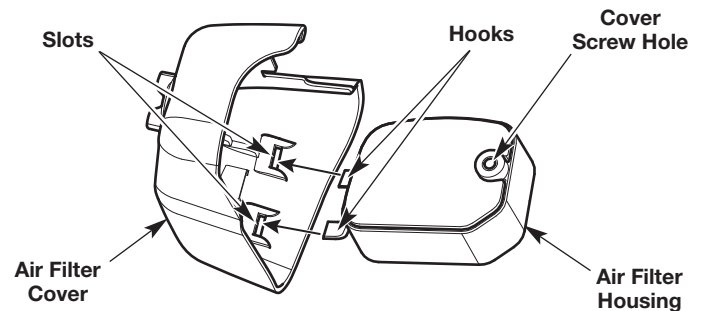

Fig. 35
7. Insert the hooks on the air filter housing into the slots on the air filter cover (Fig. 35).
8. Swing the air filter cover to the right and align the cover screw with the cover screw hole (Fig. 35). Tighten the cover screw to secure the air filter cover.